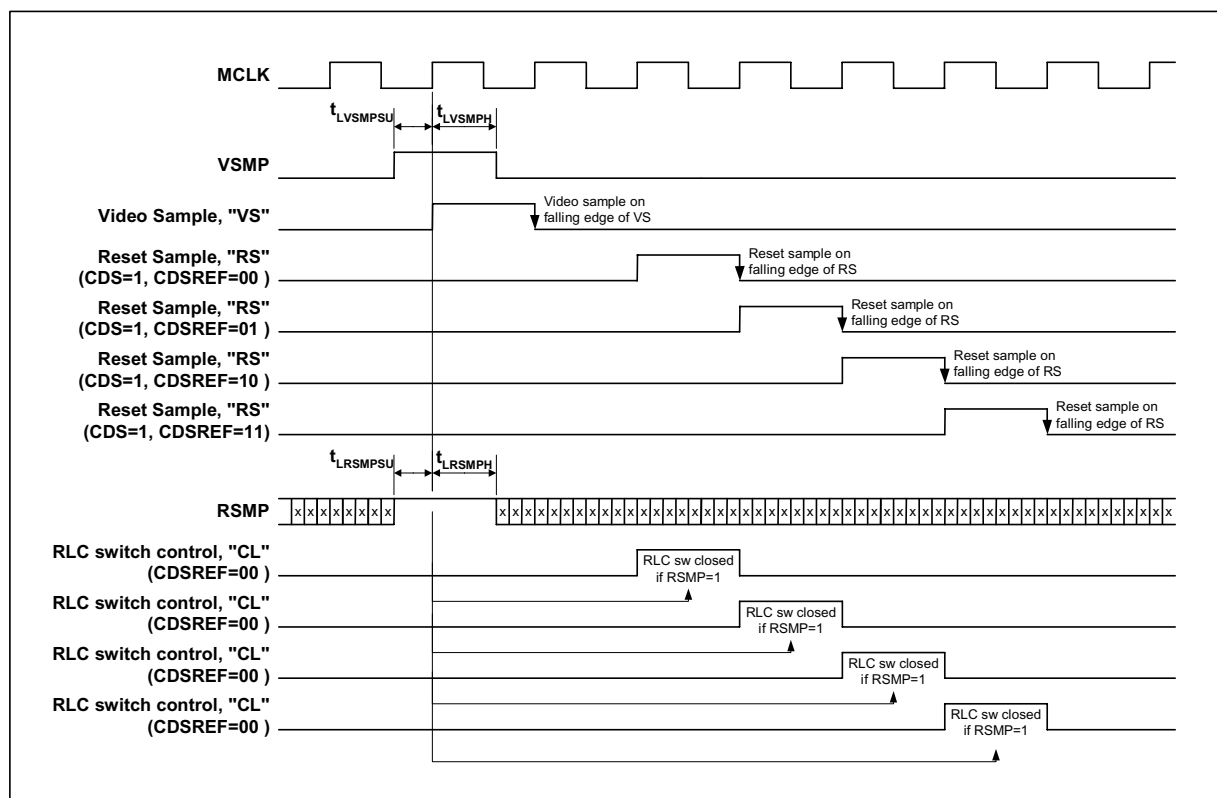

Figure 8 LEGACY Mode RLC and Sampling (LEGACY=1)
Reset Level Clamping in LEGACY mode is only possible in CDS mode and the time at which the clamp switch is closed is concurrent with the reset sample period, RS, as shown in **Figure 8**. RLC can be enabled on a pixel by pixel basis under control of the RSMP input pin. If RSMP is high when VSMP is high and is sampled by MCLK then clamping will be enabled for that input sample at the time determined by CDSREF[1:0]. If RSMP is low at this point then the RLC switch will not be closed for that input sample. If RLC is required on every pixel then the RSMP pin can be constantly held high in LEGACY mode.
In LEGACY mode the input video signal is always sampled on the 1st rising edge of MCLK after VSMP has gone low (VS) regardless of the operating mode. If in non-CDS mode (CDS=0) the voltage on the VRLC/VBIAS pin is also sampled at this point. In CDS-mode (CDS=1) the position of the reset sample (RS) can be varied, under control of the CDSREF[1:0] register bits, as shown in Figure 8.